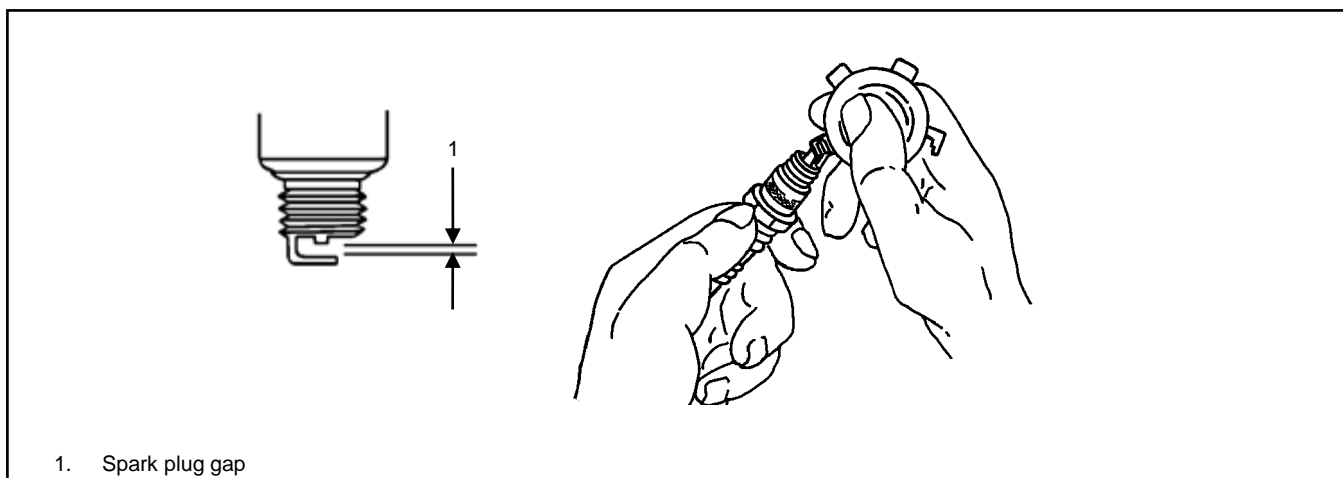

Figure 34 Spark Plug Gap
8. Use a spark plug gap tool to measure the gap on each spark plug. Adjust the gap to specification. See Figure 34.